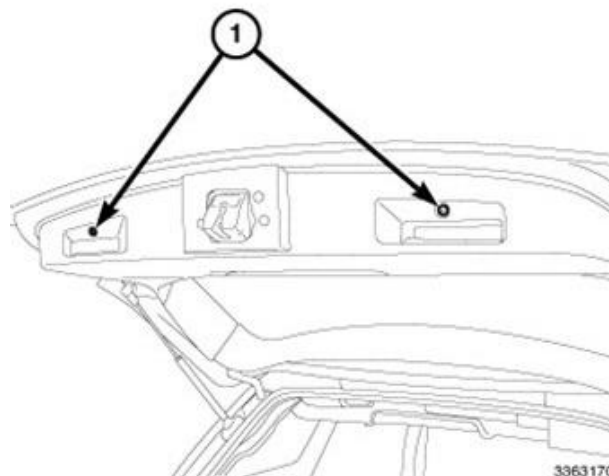

Figure 3 – Liftgate Lower Panel
4. Remove the two lower fasteners (1) (Figure 3).
26. Install the lower fasteners (1). Tighten the fasteners securely (Figure 3).